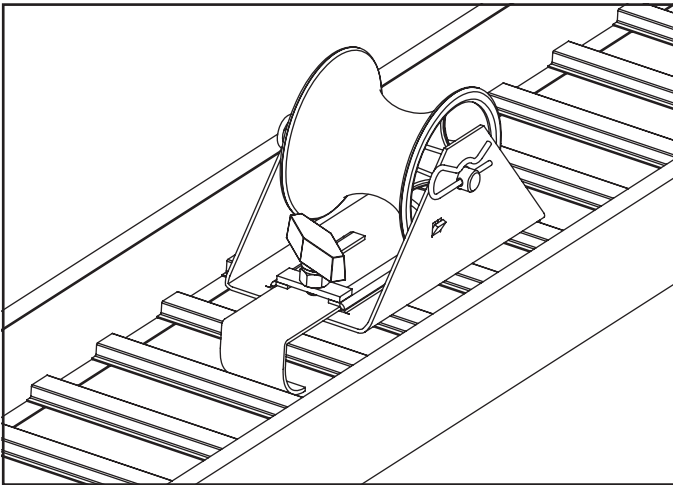

Figure 1
- Attach the sheave to the cable tray as shown in Figures 1 through 4 above, extending the adjustable leg as necessary to reach the desired tray rung.